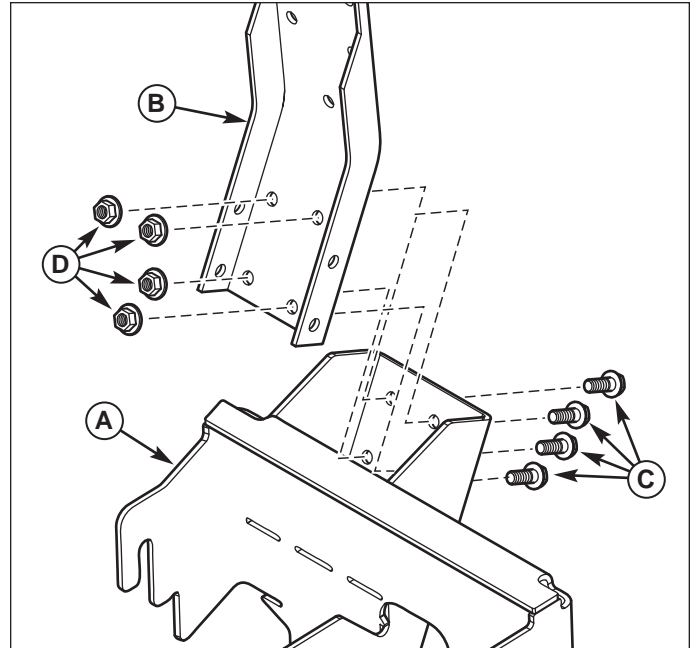

Figure 8. Install Upright Support
1. Install the upright support (B, Figure 8) to hitch (A) and secure with 3/8-16 x 1 capscrews (C) and locknuts (D) as shown.